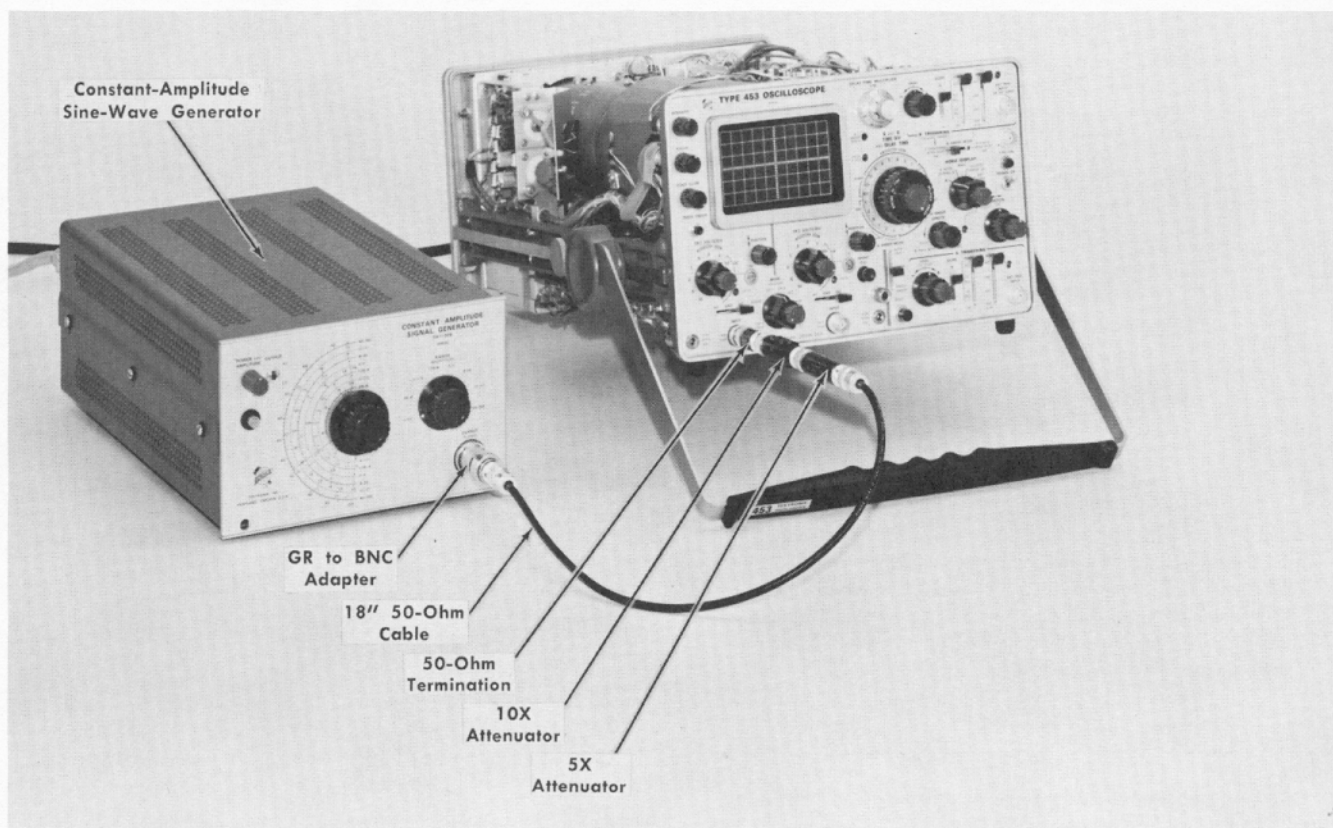

Fig. 6-28. Initial test equipment setup for steps 24 through 27.
a. Test equipment setup is shown in Fig. 6-28.